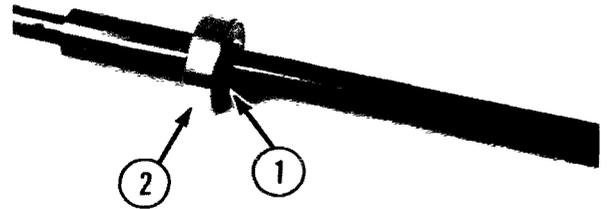

Fig. 2-33
- (14) Remove the retaining ring (1, Fig. 2-33) and use a bearing puller to remove the bearing (2, Fig. 2-33) from the shaft.
- (12) Use a long driving sleeve to seat the bearing (2, Fig. 2-33). Install the retaining ring (1, Fig. 2-33).